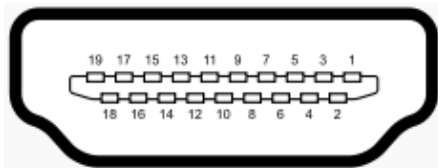

Figure 3-30: External HDMI Connector Location
- CN Location:** See **Figure 3-30**